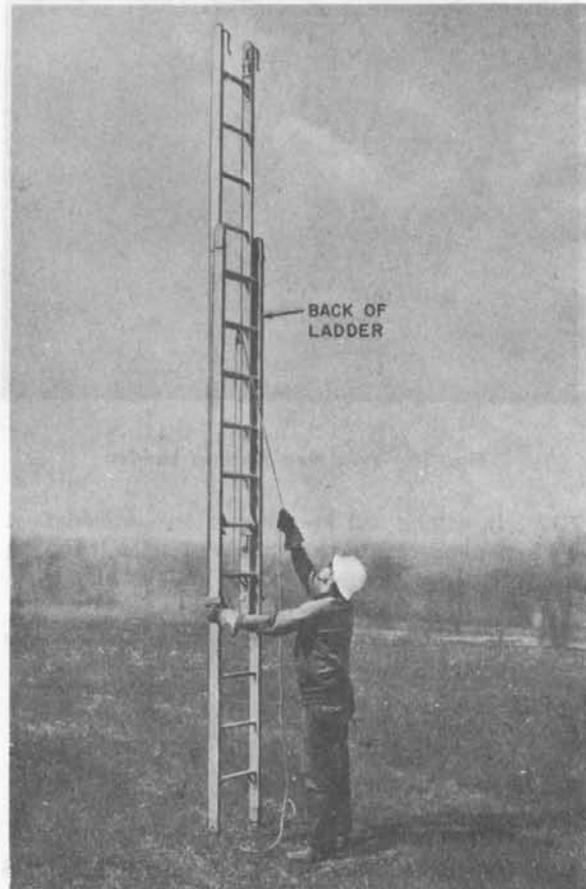

Fig. 29—Top Section Extended
**8.08** As an alternate method pull the ladder away from the support until it is in an upright balanced position as described in 8.06. From a position behind the ladder (Fig. 29), raise the top section sufficiently to disengage the locks.